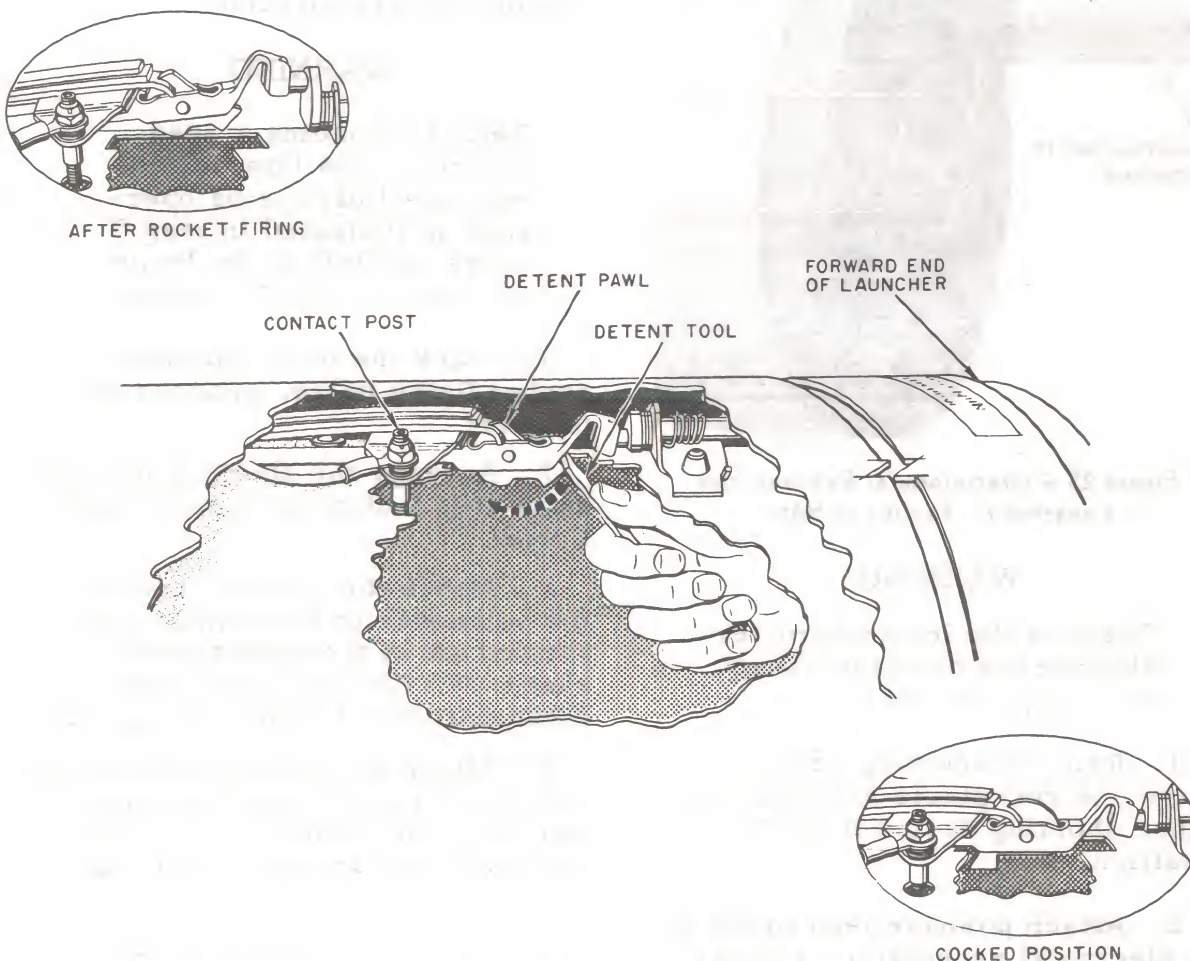

Figure 26 - Cutaway of Launcher Tube Showing Method of Detent Re-cocking After Rocket Firing.
**Detent Re-Cocking Procedure.** To re-cock the detent after a rocket is fired, proceed in the following manner, figure 26: